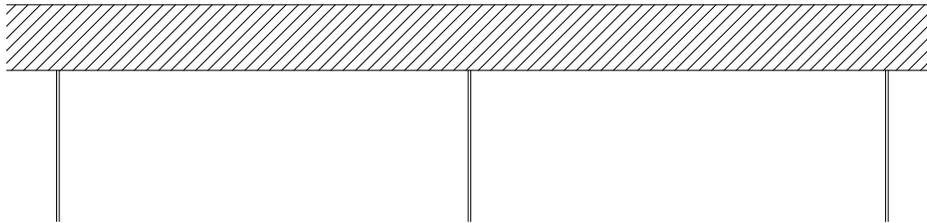

Figure 7: Suspension Wires Attached to Ceiling
Step 3: Attach lengths of pre-stressed 12 ga. suspension wire to the slab or structural steel (**Figure 7**) above the ceiling according to ASTM C636, or local building codes (as applicable).